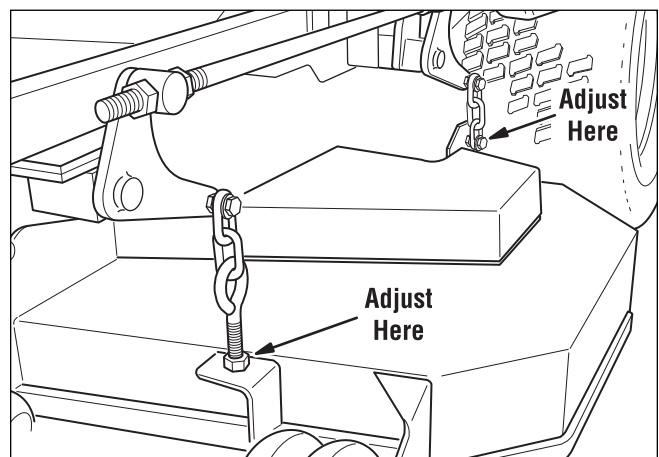

Figure 39. Hanger Chain Adjustment
7. Adjust the front eyebolts until the chains are tight and the deck is still resting on the 2 x 4's. Tighten jam nuts. See Figure 39
8. Loosen the nuts and allow the rear of the deck to rest on the 2 x 4's and 1/4" spacers. Slide the chains in the slots until the chains are tight and tighten the nuts. See Figure 39.